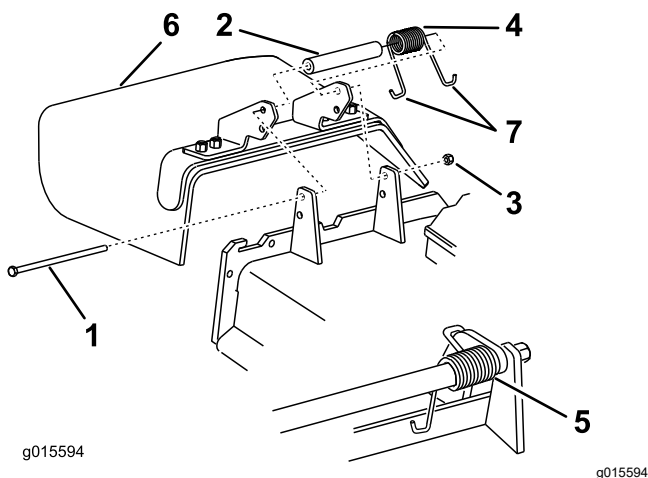

Figure 97
1. Remove the locknut, bolt, spring, and spacer holding the deflector to the pivot brackets (Figure 97).
Note: Make sure that 1 J-hook end of spring is installed behind deck edge before installing the bolt as shown in Figure 97.
6. Place 1 J-hook end of the spring around the grass deflector (Figure 97).